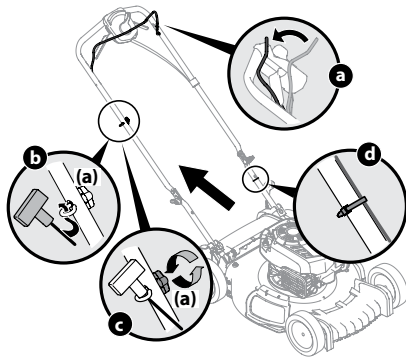

Figure 2-4
7. The rope guide is attached to the right side of the upper handle. Loosen the wing knob (a) which secures the rope guide. See Figure 2-4.